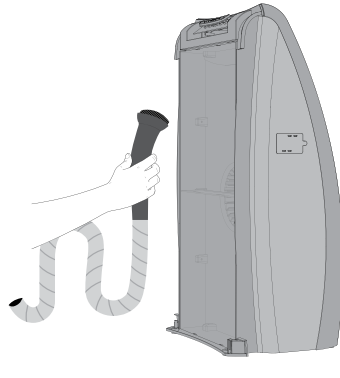

Fig. 2
3. Dust or vacuum the interior and along the sides. It is recommended to clean the interior when the Filters are changed. (Figure 2)